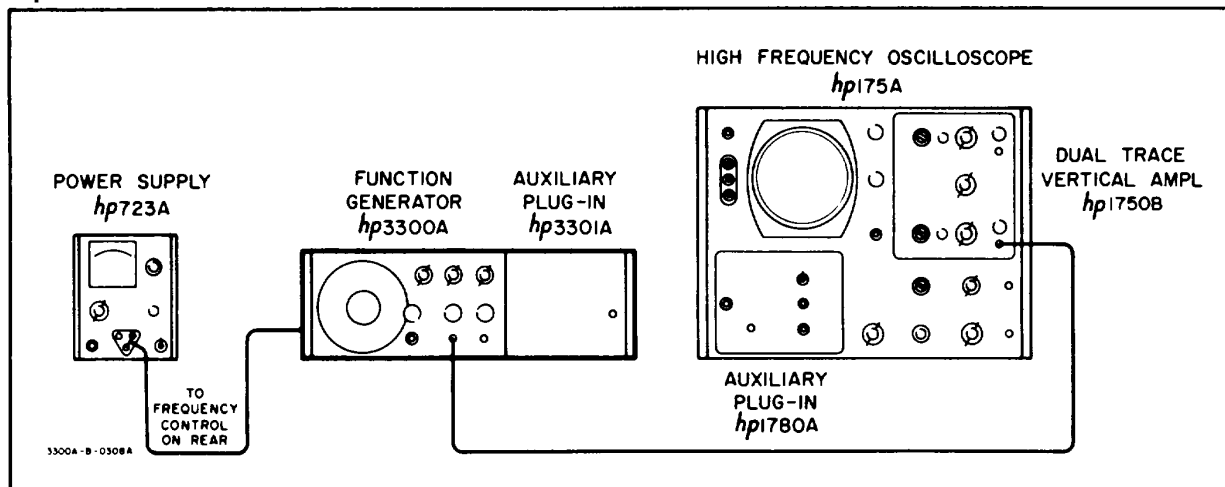

Figure 5-2. Remote Frequency Control Test Setup
- b. Connect the instruments as shown in Figure 5-2. Remove **FREQ. DIAL-to-FREQ. CONTROL** shorting bar.